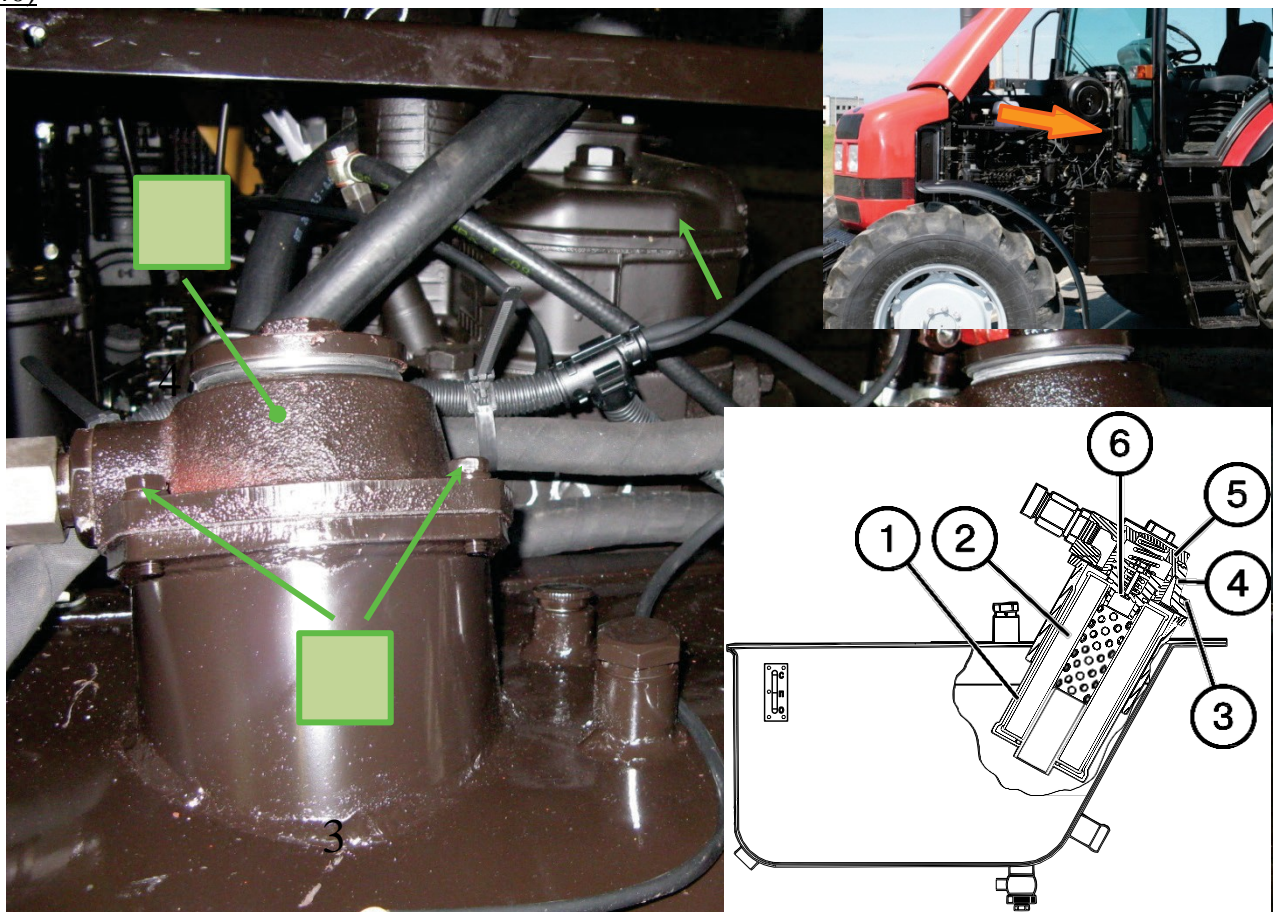

Figure 8.40
**Procedure 33. Changing the Replaceable Filter Element in the Hydraulic System Oil Tank (fig. 8.40)**